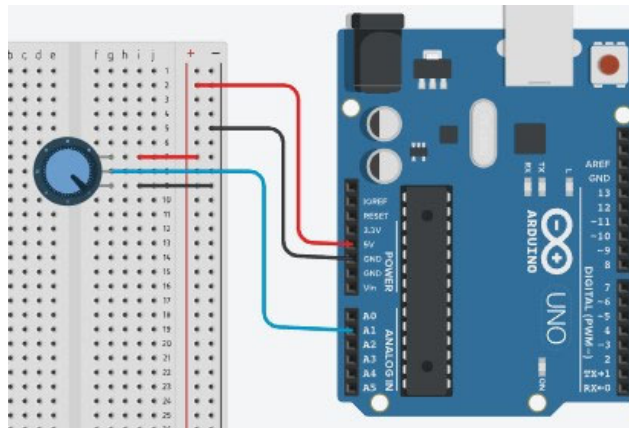

Fig.2
1. Construct a simple circuit shown in Fig.2.